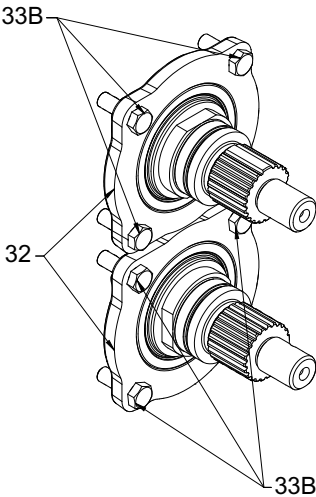

Figure 270 - Remove Bearing Retainers
3. Remove the front bearing retainer screws (Figure 270, item 33B) and pull off the bearing retainers (item 32). (If a retainer is stuck, leave it in place; it will press out when the shaft is removed.)